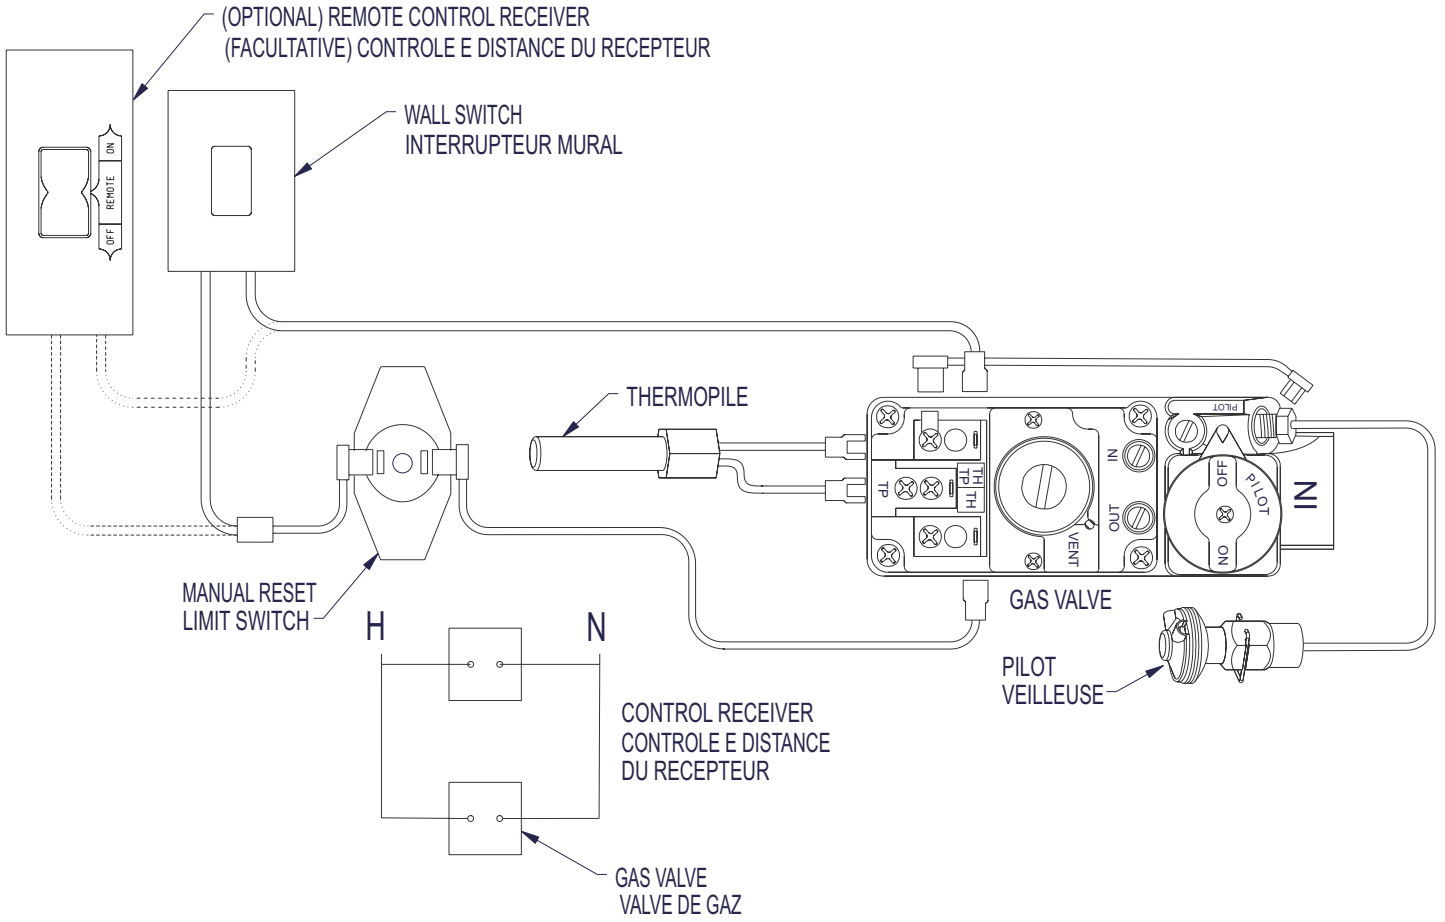

Figure 23
**See Figure 23.**
To connect the FRBC remote to the millivolt gas valve on your "B-Vent" Fireplace, disconnect one wire terminal lead (wall switch wire) from gas valve, separate/split wall switch wire lead approximately 18 inches. Cut the removed lead 12 inches long and strip both cut ends. After stripping and baring the wire ends, connect the two stripped ends to the remote receiver. Reconnect the 1/4" insulated wire terminal (short 18" wire) to the gas valve wire terminal. **See Figure 23.**